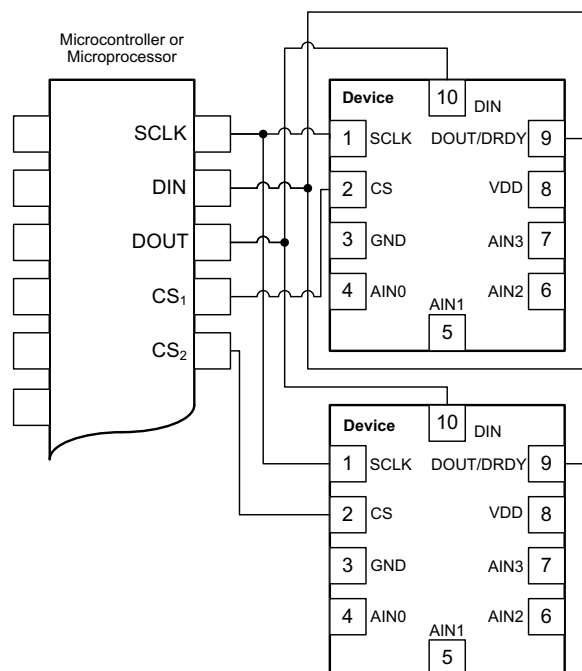

**Figure 48. System Component Placement**
TI recommends employing best design practices when laying out a printed circuit board (PCB) for both analog and digital components. This recommendation generally means that the layout should separate analog components [such as ADCs, amplifiers, references, digital-to-analog converters (DACs), and analog MUXs] from digital components [such as microcontrollers, complex programmable logic devices (CPLDs), field-programmable gate arrays (FPGAs), radio frequency (RF) transceivers, universal serial bus (USB) transceivers, and switching regulators]. An example of good component placement is shown in Figure 48. While Figure 48 provides a good example of component placement, the best placement for each application is unique to the geometries, components, and PCB fabrication capabilities being employed. That is, there is no single layout that is perfect for every design and careful consideration must always be used when designing with any analog components.